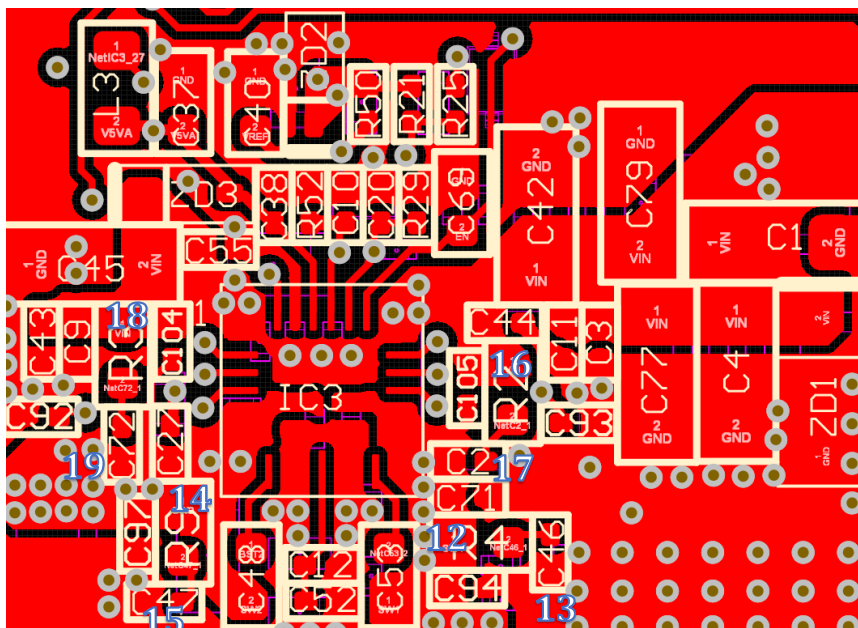

Figure 6: Capacitor location around NU1020
- [12]~[19]Make the snubber loop as small as possible. Please refer to R4 C46, R9 C47, R2 C2 and R3 C72 in Figure 6.